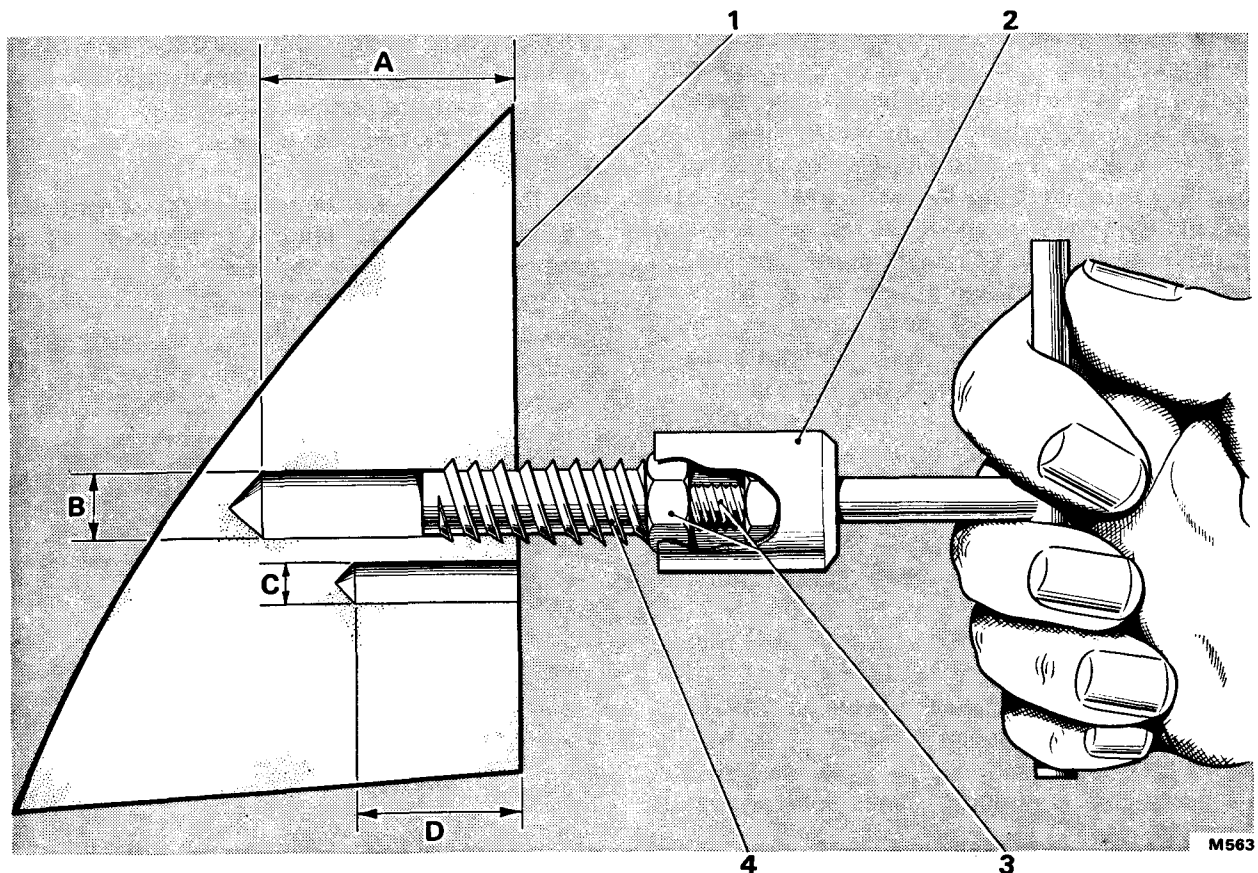

FIG. S124 HOOD CATCH MODIFICATION—DRILLING DIMENSIONS AND METHOD OF FITTING THE BRASS INSERT
6. Fit a 0.312 in. (7,937 mm.) diameter drill with a stop, and drill out the upper centre screw hole to a depth of 1.25 in. (2,857 cm.) as shown in Figure S124.
8. Take one of the brass inserts (CBD 2904) and ensure that the 2 B.A. setscrew and lock-nut, fitted to the end opposite the lead-in (see Fig. S124), is well engaged with the threads in the insert.
10. Using a 'Tee' spanner, engaged with the lock-nut rather than the head of the setscrew (see Fig. S124), screw the insert squarely into the 0.312 in. (7,937 mm.) diameter hole drilled out in the head rail until it is
12. Drill out the remaining two screw holes for each head rail catch with a 0.109 in. (2,768 mm.) diameter drill to a depth of 0.625 in. (15,875 mm.) (see Fig. S124).